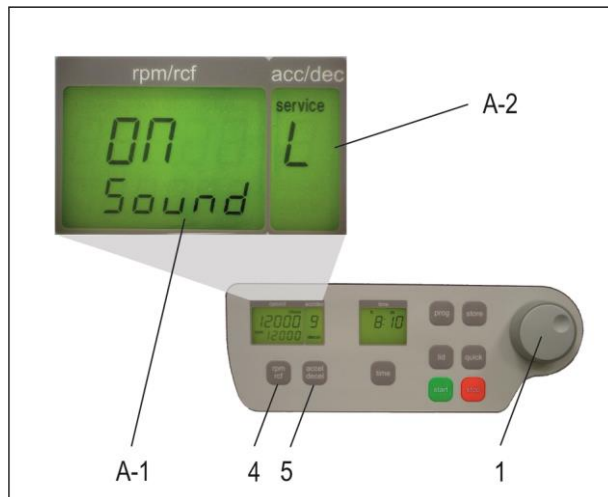

Figure 4
Proceed as illustrated, under point 1.8.1, to enter this program mode, press the key; "accel/decel" (5). In the display, "accel/decel" (A-2) flashes the word, "service". Select the letter, "L" with the adjustable knob (1). As a result, appearing in the display "rpm/rcf" (4), are the words, "On Sound". By pressing the key, "rpm/rcf" (4), the word "On" flashes, and the sound can be switched off with the adjustable knob (1), (see Figure 4).